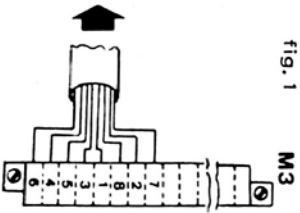

fig. 1
- connect the amperemeter between the wire previously removed and point [2] of M3 terminal n block (fig. 1) and check that the voltage is: